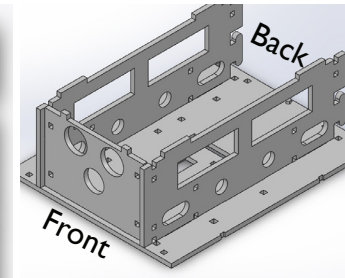

Figure 2
2. Place the front plate with the 2 side-by-side holes on the top, into the bottom plate on the side with the rectangular hole. (Figure 2)